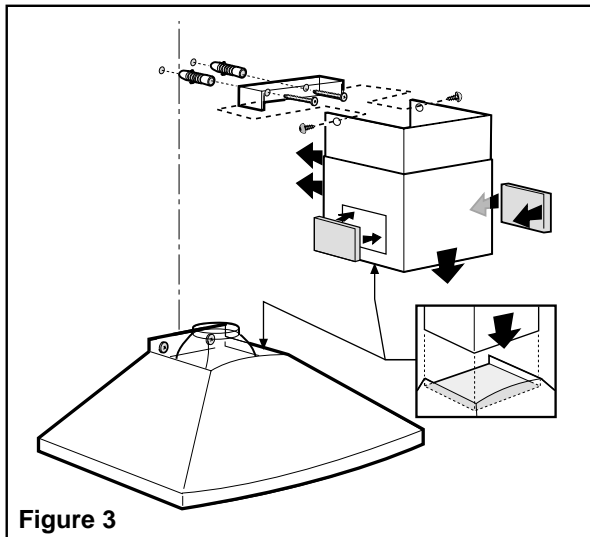

Figure 3
10. Install duct cover ceiling bracket to wall flush to ceiling with drywall anchors supplied. Figure 3.
20. Install duct cover per Figure 3